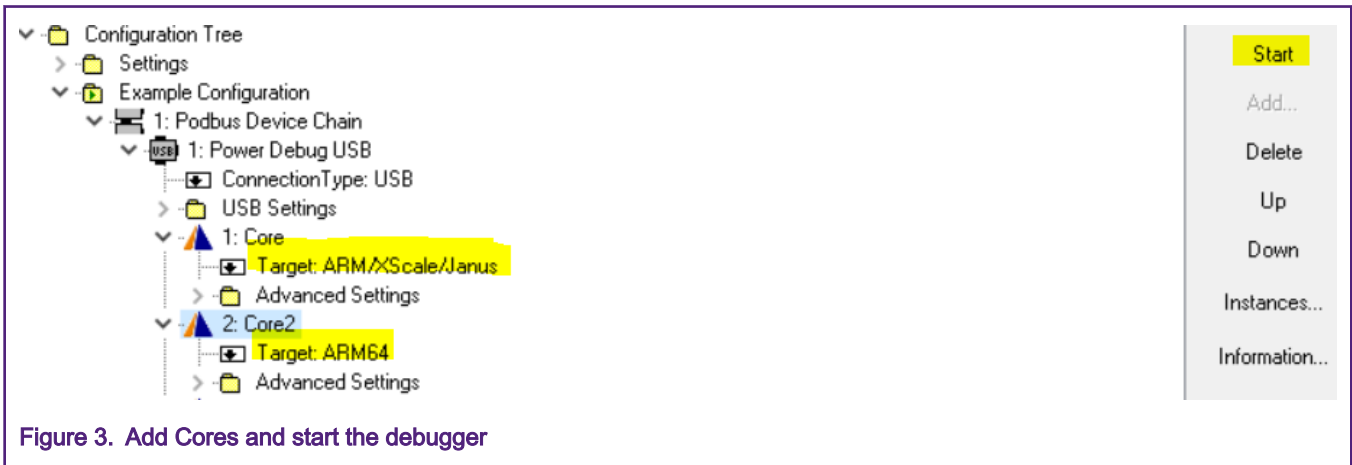

Figure 3. Add Cores and start the debugger
3. Select the Arm core, and press start Figure 3